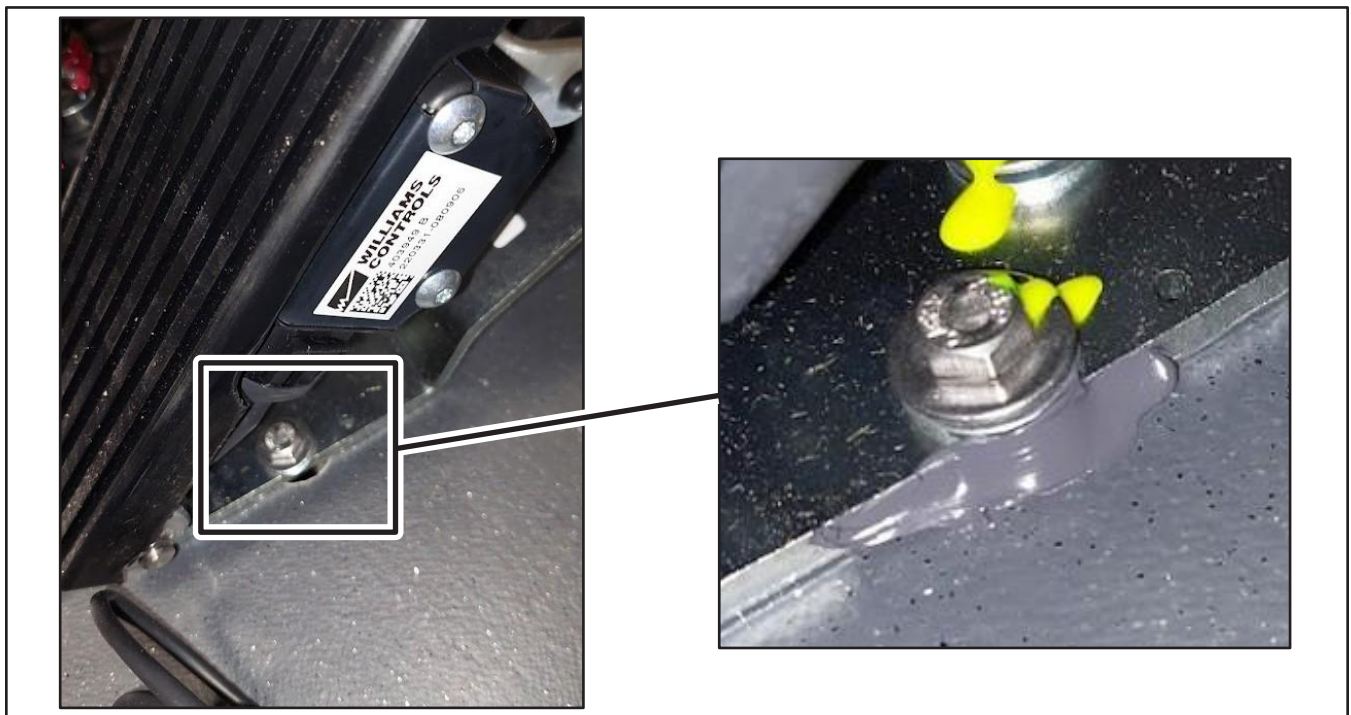

Figure 7 - Seal any Floor Opening and Around Pedals (Typical)
- 1.23. Apply Sikaflex 552 N35535-01 all around the pedals and in any floor opening to seal properly (Figure 7).